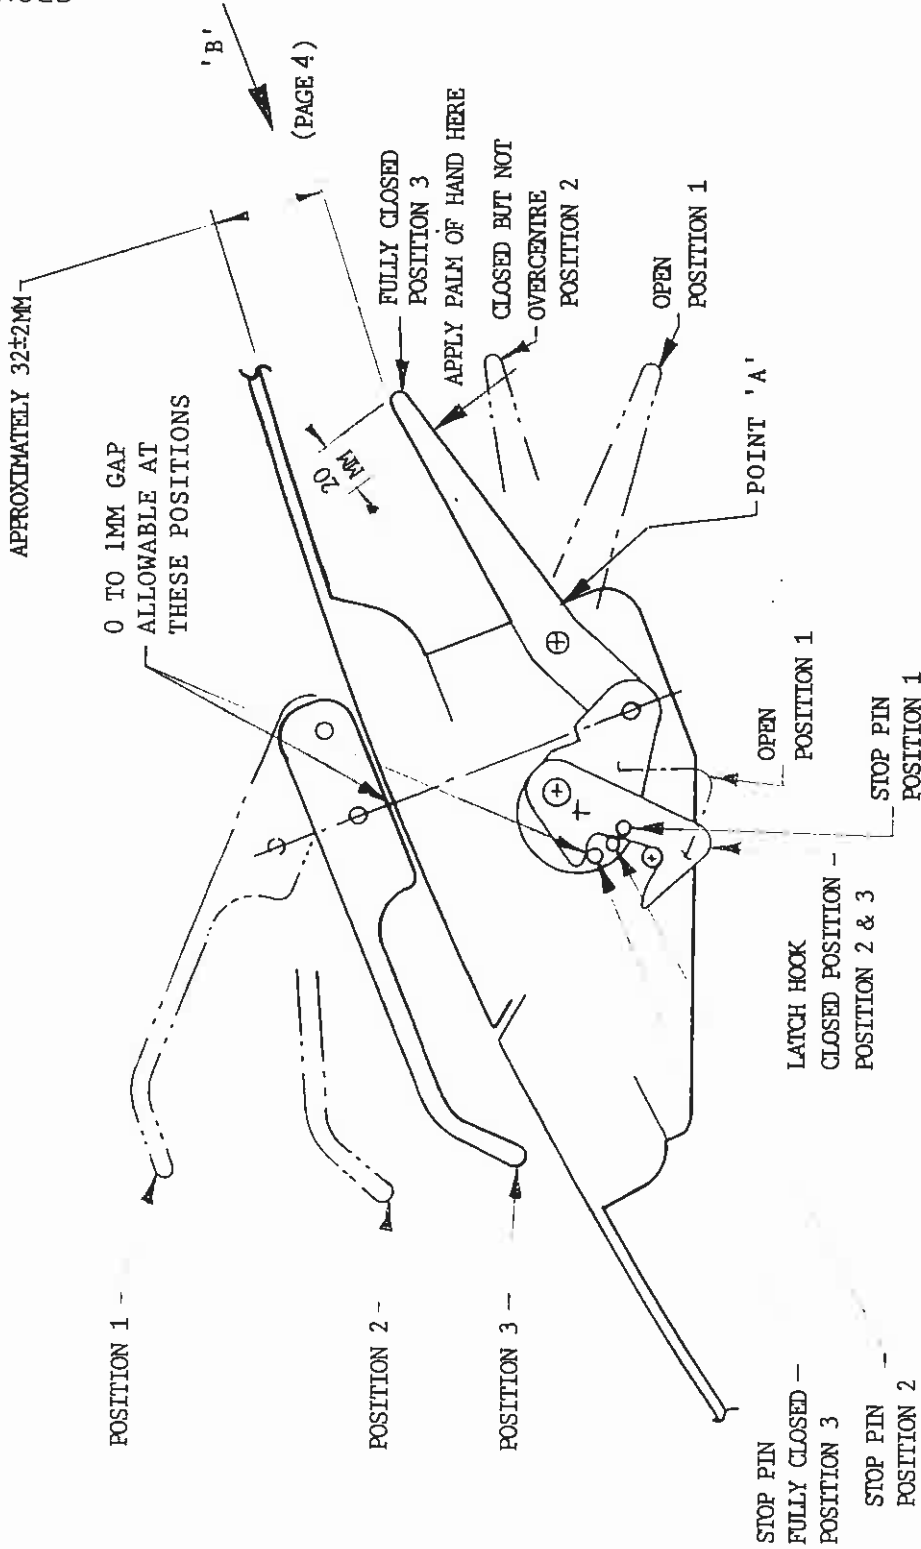
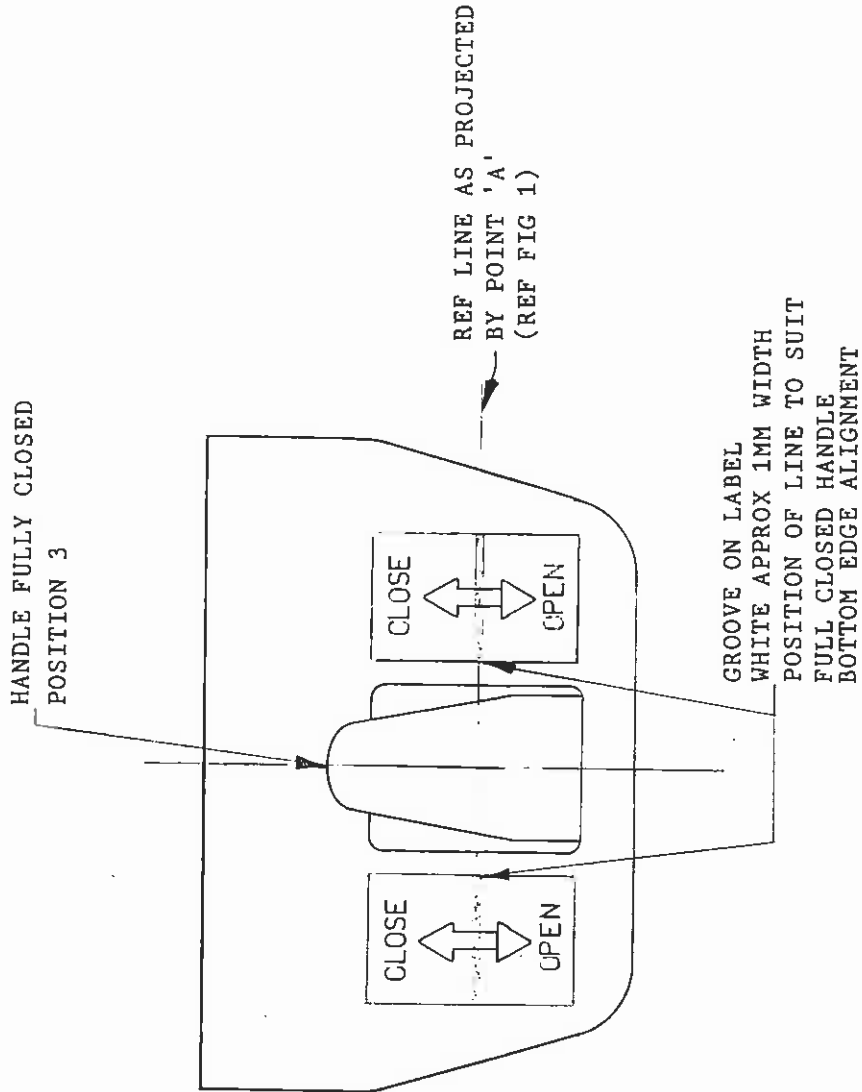

Fig 1
FIG 2
Fig. 1 page 2 shows 3 positions of the canopy mechanism:
- (ii) Close canopy fully. Ensure internal handle is in its correct position and external handle is in its correct position, ie touching bush or no more than 1mm gap. Fig. 1.
- (v) Check closure. By positioning palm of hand at point indicated, ref. Fig. 1, push up latch handle, which should close with reasonable resistance but without using excessive force.
- (viii) When handle is fully closed, ie meets requirements of Fig. 1, mark a white line across both labels ref. Fig. 2 on line with handle lower surface (ie coincident with Point 'A' ref Fig. 1 & 2. The line may be obtained by running a hacksaw across both labels; a) deep enough to reveal white of label material or b) if base material is red, deep enough to hold white fill in wax, ie 0.25mm to 0.5mm.
VIEW ON ARROW 'B' (REF FIG 1)